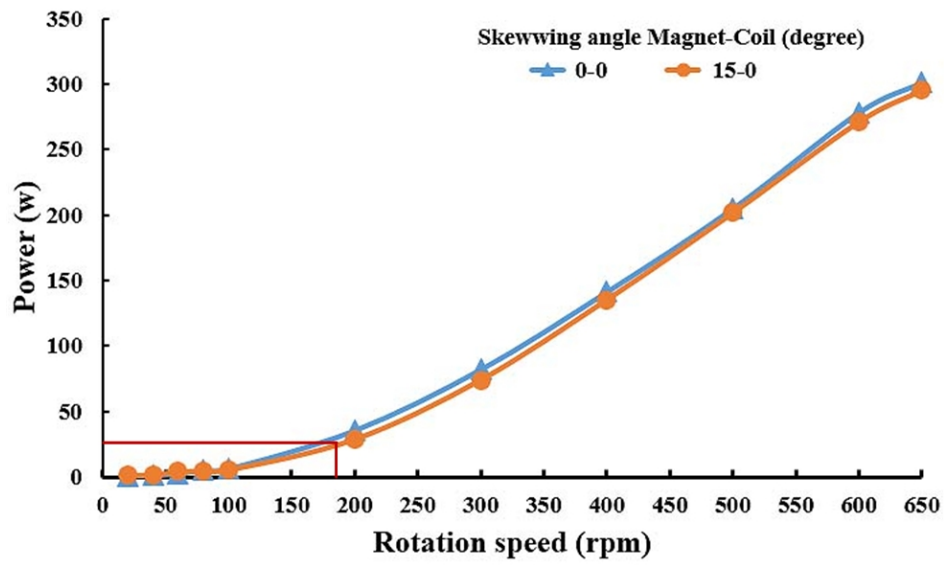

Fig. 3.
Comments 1) To split the results and the discussion into two different sections in the paper. I think the discussion will be more clear if all results are presented first and then they are discussed in a separate section. 2) The authors have to explain the experimental procedure more clearly in terms of what the rotation speed is during the presented test results. This is especially the case for figure 3 and figure 4. 3) For vertical axis wind turbines there is often a linked relation between the turbine shaft power and both the incoming wind speed as well as the turbine rotation speed. Thus
3.5 It will be good if this is discussed in relation to the start-up torque measurements presented in figure 3 and 4.
- This article have already edited that split the results and discussion - All the rotational speed of 650 rpm, the maximum power generated around 300 W, but it is depend on the skewing magnet and coils technique. - This article explained more the relationship between Figure 4 (b) [Orinal Figure 3(b)] and Figure 5 [Original Figure 4] by “Fig 5 shows comparison values between the starting torque that collected peaks value from Figure 4 (b) and power when changing the skewing angle magnet-coils in the PMSG generator.”
was added Figure.3. For explained the relationship between figure 8 and 9 (original Figure 7 and 8) that Figure 8 shows the related between rotation speed, torque and wind speed. Figure 9 is related to Figure 8 by rotation speed which used skewing angle magnet-coil at 15-0 degree, it can be really reduced starting torque and cut-in at 2.1 m/s.
3.5 Figure 4(a) [original Figure 3 (a)] represents the starting torque are without electrical load. Figure 4(b) [original Figure 3 (b)] represented the starting torque are connected the electrical load. Figure 5 [Original Figure 4] is related Figure 4(b) [original Figure 3 (b)] which Figure 5 was compared the maximum peaks of starting-up torque at all the skewing magnet – coils that looking for high power and low start-up torque.